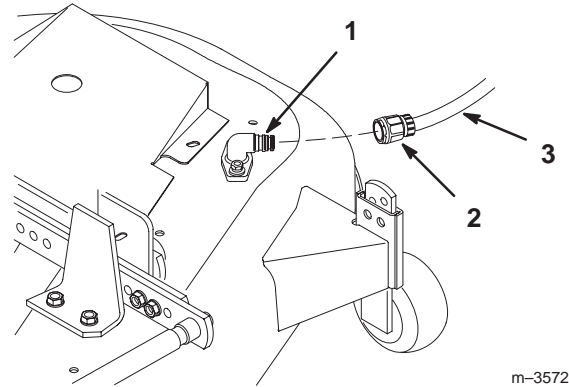

Figure 35
5. Attach a hose coupling to the end of the washout fitting and turn water on high (Fig. 35).